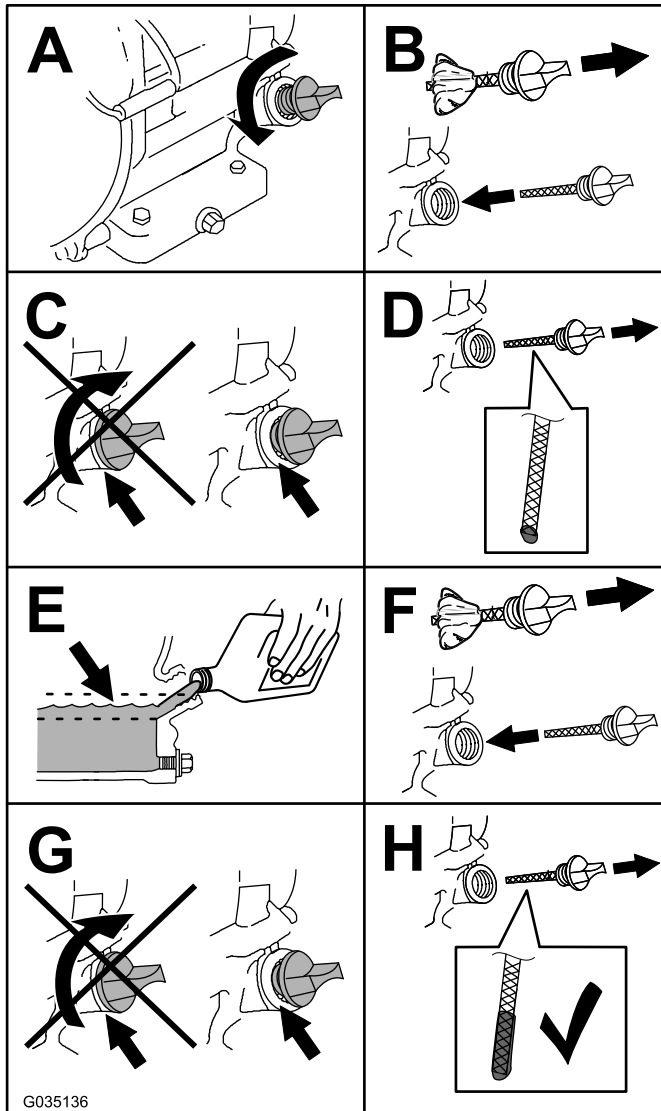

Figure 41
5. Check the oil level as shown in Figure 41.